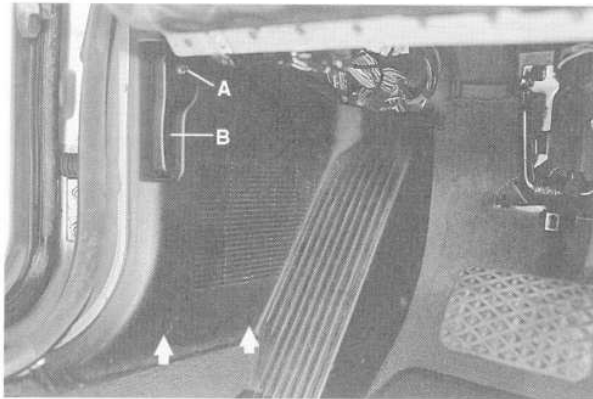

Fig. 3. Remove bolt (A), lever (B), and turn retainers 90° (arrows).
3. Remove hood release latch cover, if applicable, and remove bolt from center of hood latch release lever. Remove lever. See Fig. 3.